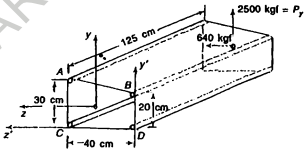

Figure 1
15. A unsymmetrical one cell box beam with four corner flange members A, B, C and D as shown in Figure 1. Loads P_x and P_y are acting at a distance of 125 cm. from the section ABCD. Determine the stresses in the flange members A and D. Assume that the sheat-metal connecting the flange members does not carry any flexural loads.